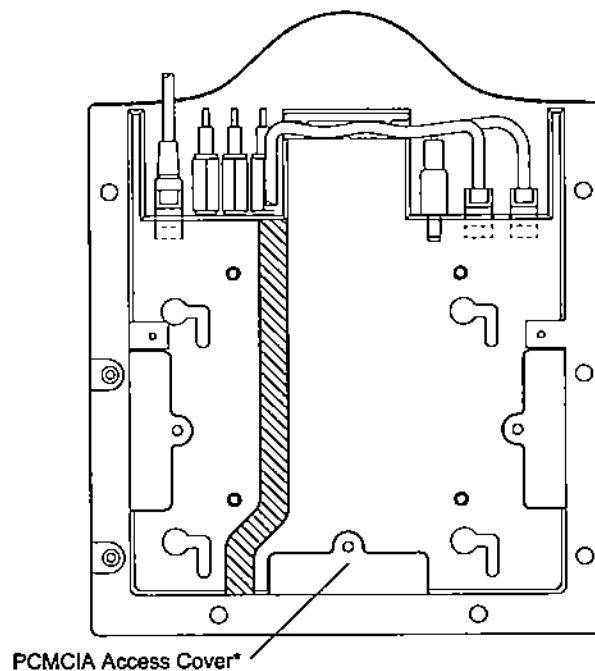

Figure 2-20. MK2000 Rear View
1. Place the MK2000 face down on a flat surface with the PCMCIA access cover toward you, as shown in Figure 2-20 on page 2-29. Use caution not to damage the touch panel display.